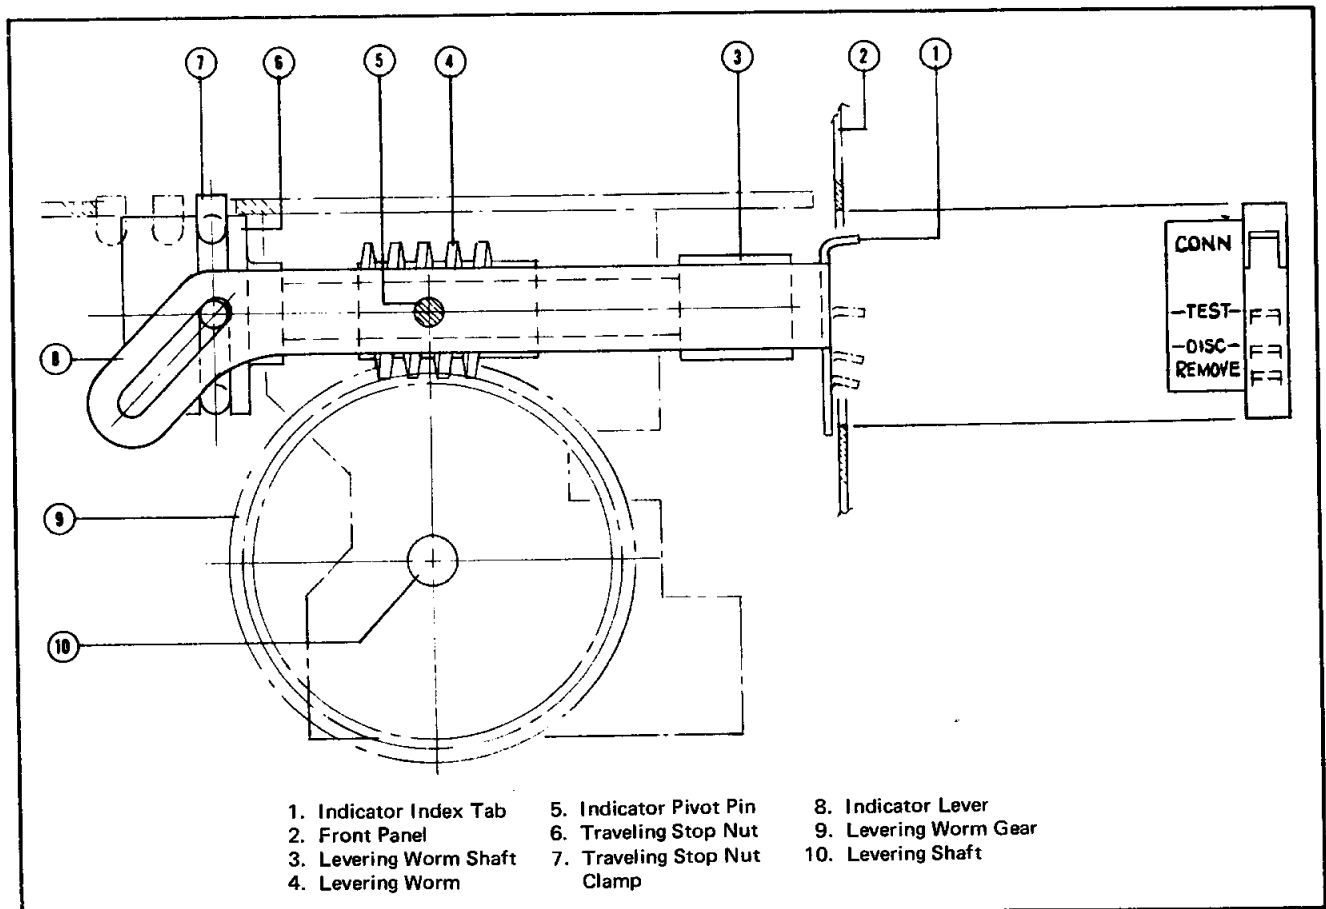

Fig. 27 Drawout Unit Position Indicator
1. By hand push on the trip plate. As shown in Figure 27, this item has a tab which pushes against a pin on the trip shaft which applies a direct rotating force on the shaft in the tripping direction.
To increase safety to personnel and the circuits to which the breaker is connected, the complete unit is equipped with automatic mechanical interlocking. This interlocking is effective in various ways in the four breaker positions (Figure 27):